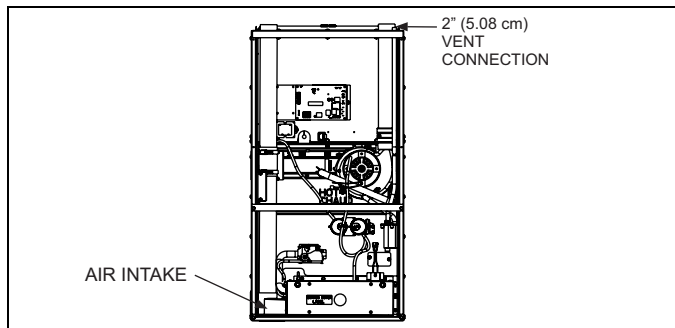

FIGURE 25: Sealed Combustion Air Intake Connection and Vent Connection
1. **OUTDOOR COMBUSTION AIR:** This is a sealed combustion air configuration where the combustion air is supplied through a PVC or ABS pipe that is connected to the PVC coupling attached to the burner box and is terminated in the same atmospheric zone as the vent. This type of installation is approved on all models. Refer to Figures 25 & 27.